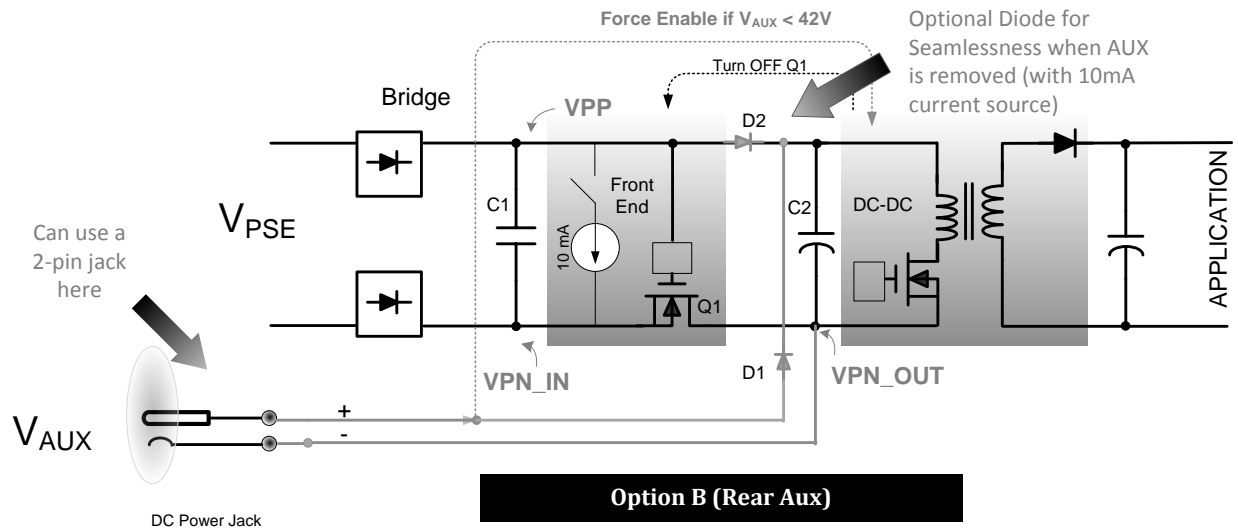

Figure 4: Rear Aux Method in more detail
b) Diode “D2” present: With this addition, we can choose an option to “keep alive” the PoE rail as a sort-of “UPS standby” in case the wall adapters is not delivering power. The diode D2 will prevent the negation of the 25k signature by the AUX rail, so the PSE will be able to power up (again). But Q1 is still kept OFF so the PSE rail does not force its way through D2 based on higher voltage. In other words, Q1 is kept OFF. But the PSE is not allowed to disconnect after detecting 25k signature, by keeping the rail alive by drawing a small current to the left of Q1. We therefore need to design the Front End such that when the wall adapter is sensed via the RAUX pin, we force the Front End to draw >10mA from the PSE, preventing MPS disconnect (see Figure 4). This way we can have the advantage that if the Aux rail is removed, the PoE rail can be smoothly (seamlessly) take over power delivery (perhaps with the help of some architectural soft-transitioning features). This will ensure no interruption in power and consequent PD reset.
- 1) Potentially seamless transitioning from PoE power to Aux power and back is possible with Rear Aux, provided the Front End is designed to support this feature with a dedicated WA_EN pin on the Front End. In addition, we need to provide the diode D2 shown in Figure 4. Otherwise, the AUX voltage will flow back into the port capacitance, in parallel to the 25k signature resistor, and that will prevent the PSE from ever detecting a valid PD.